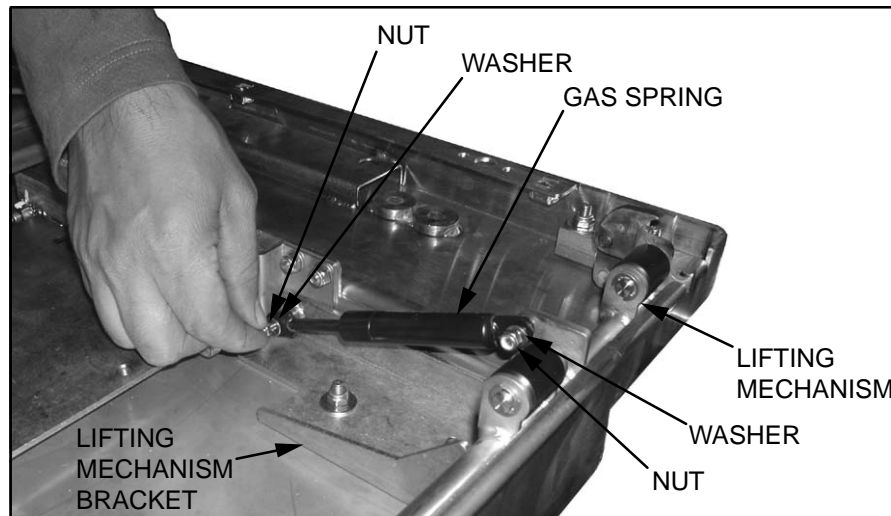

FIGURE 4-7: GAS SPRING REMOVAL
- d. Refer to **Figure 4-7**. Remove and retain nut and washer that attach the gas spring to lifting mechanism bracket.
- e. Refer to **Figure 4-7**. Remove and retain nut and washer that attach the gas spring to lifting mechanism.